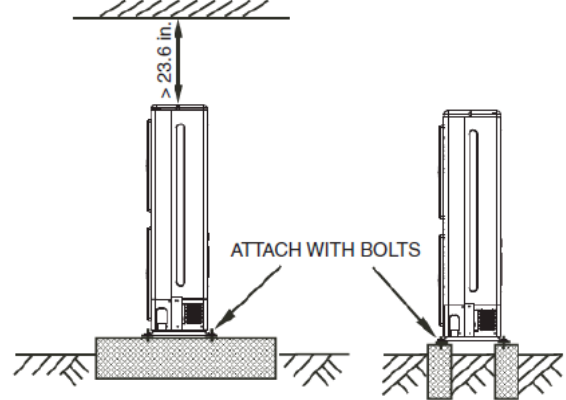

Fig. 6 — Concrete Base
- Ensure that the base is level and that the weight of the unit is distributed evenly. See Fig. 6 below for reference.